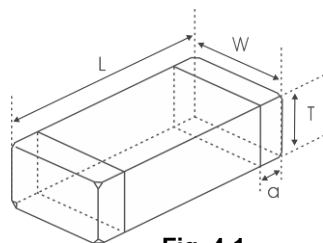
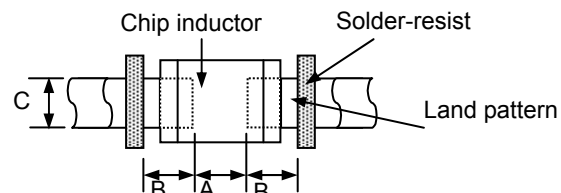

Fig. 4-1
Fig. 4-2
- 1) Dimensions and recommended PCB pattern for reflow soldering: See **Fig.4-1**, **Fig.4-2** and **Table 4-1**.